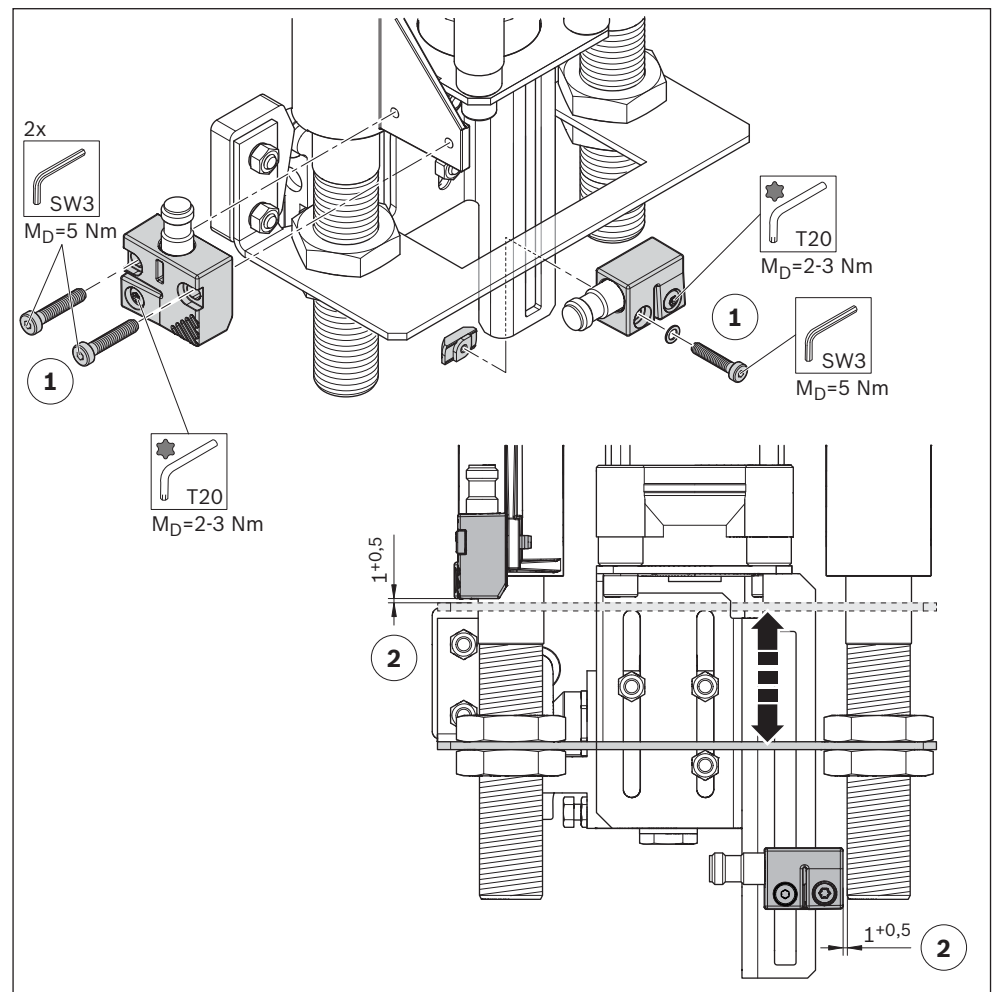

Fig. 12: Installing the proximity switches for upper/lower position monitoring
1. Install the proximity switches according to Fig. 12.